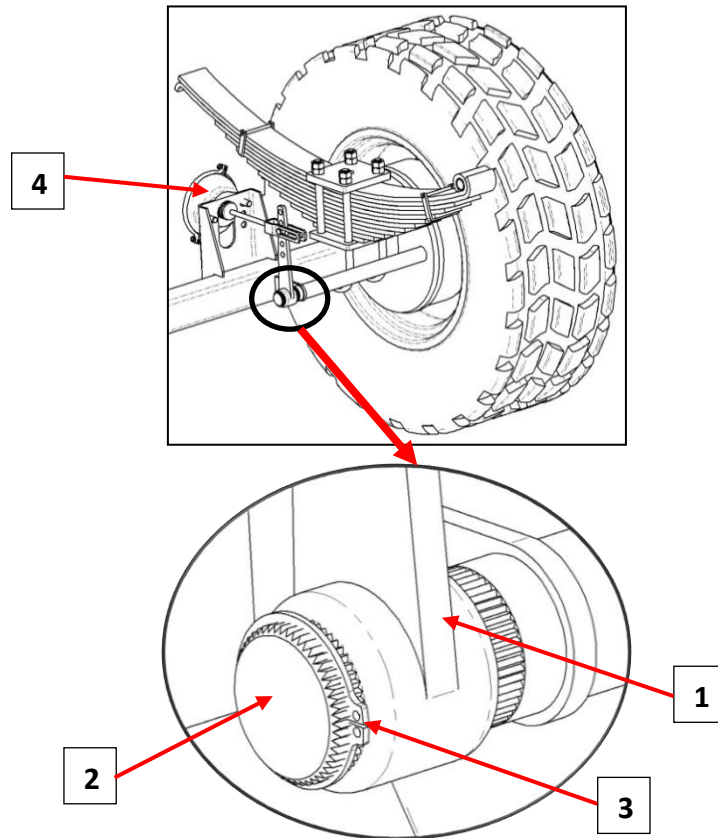

Figure 6.5. Brakes regulation
- Engage and release the service brake and the parking brake. The expander arm (1) (fig. 6.5) should move and return without any significant resistance and jamming.
Brakes adjustment involves changing the position of expander arm 1 (fig. 6.5) with respect to the expander roller 2. To do this, remove the retaining ring 3 of roller 2, and then remove arm 1 of shaft 2. Then move the expander arm on the conjunction with the roller by one or more teeth in the right direction, namely: